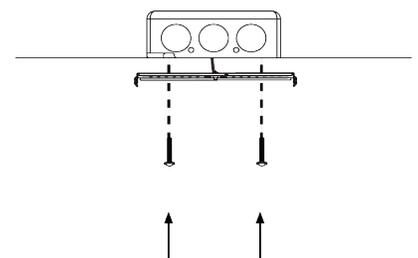

Fig. 3
3. Connect the mounting bracket to the junction box using screws. (Fig. 3)